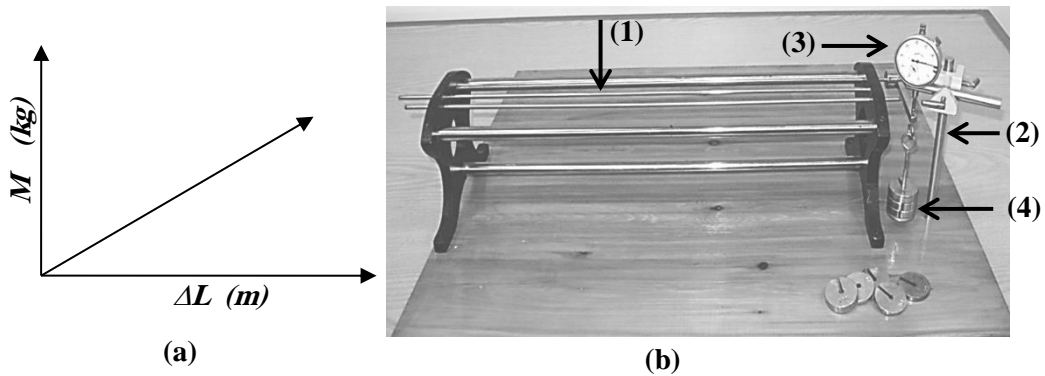

Figure 4: (a) Relationship between the hanged mass M and the screw gage reading ΔL is a straight line. (b) Parts of the experiment apparatus.
- 1-The apparatus is fixed as shown in **Fig. 4**.